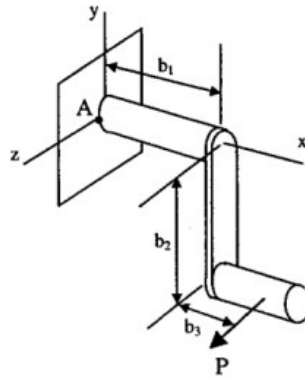

Figure Q5
5. For the purpose of analysis, a segment of a crankshaft in a vehicle is presented as shown in Figure Q5. The load $P = 1 \text{ kN}$, and the dimensions are $b_1 = 80 \text{ mm}$, $b_2 = 120 \text{ mm}$ and $b_3 = 40 \text{ mm}$. The diameter of the shaft is $d = 20 \text{ mm}$. Determine the maximum tensile, compressive and shear stresses at point A, located on the surface of the shaft at the z-axis.